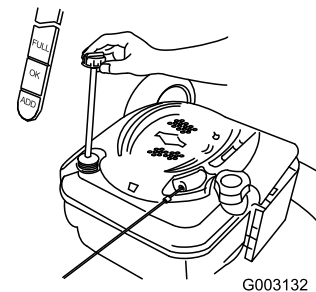

Figure 7
1. Remove the dipstick (Figure 7).
2. Slowly pour oil into the oil fill tube until the oil level reaches the Full line on the dipstick (Figure 7). **Do not overfill.** (Max. fill: 20 oz., type: SAE 30W detergent oil with an API service classification of SF, SG, SH, SJ, SL, or higher.)